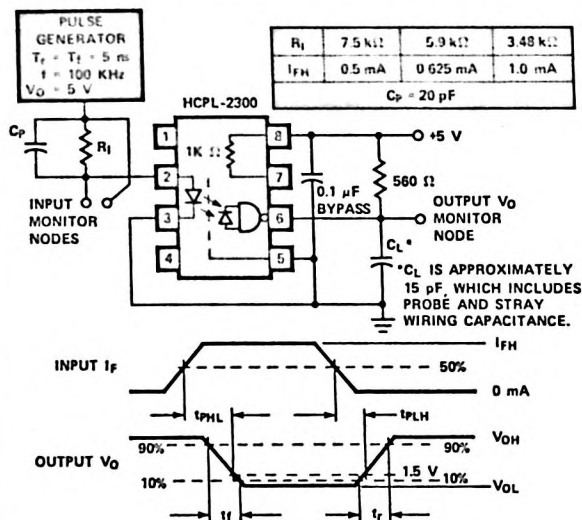

Figure 8. Test Circuit for t_{PHL} , t_{PLH} , t_r and t_f .
8. C_p is the peaking capacitance. Refer to test circuit in Figure 8.